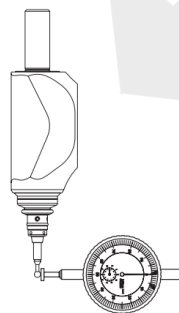

Figure 4
- Set the indicator to zero (Figure 4)